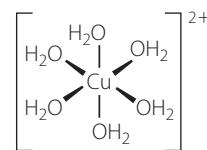

FIGURE 14.8 Hexaaquacopper(II)
When copper(II) salts are dissolved in water, they generally produce a blue solution and form a complex, hexaaquacopper(II) ($[\text{Cu}(\text{H}_2\text{O})_6]^{2+}$) with water, as shown in Figure 14.8. The convention when writing the formula of complexes is to use square brackets to show the charge over the whole complex.